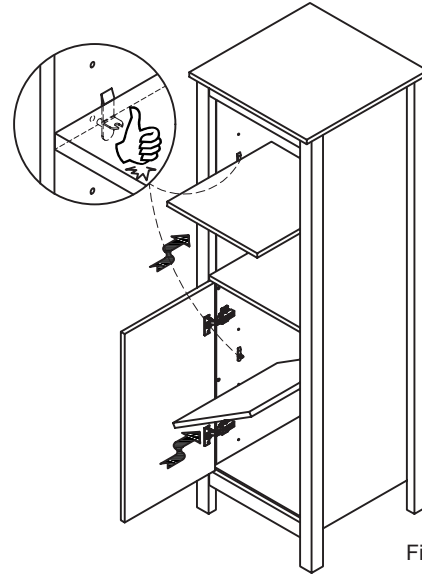

Figure 2
- 3: Insert each shelf support pin (x 8) into the pre-drilled holes in the linen cabinet, then insert each shelf (x 2). Figure 2.